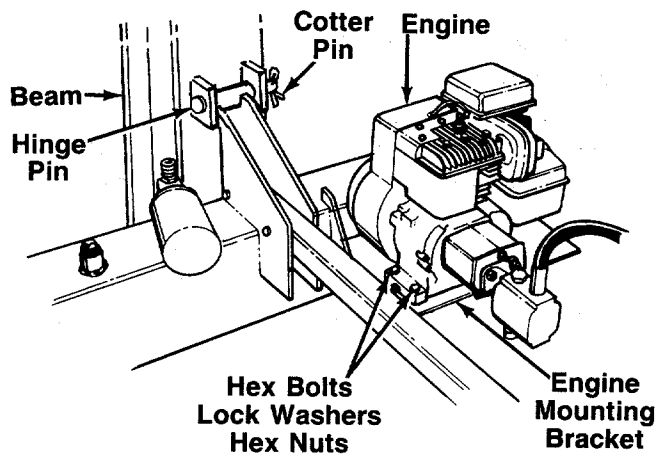

FIGURE 7.
2. Place the engine and pump assembly in position on the engine mounting bracket as shown in figure 7.